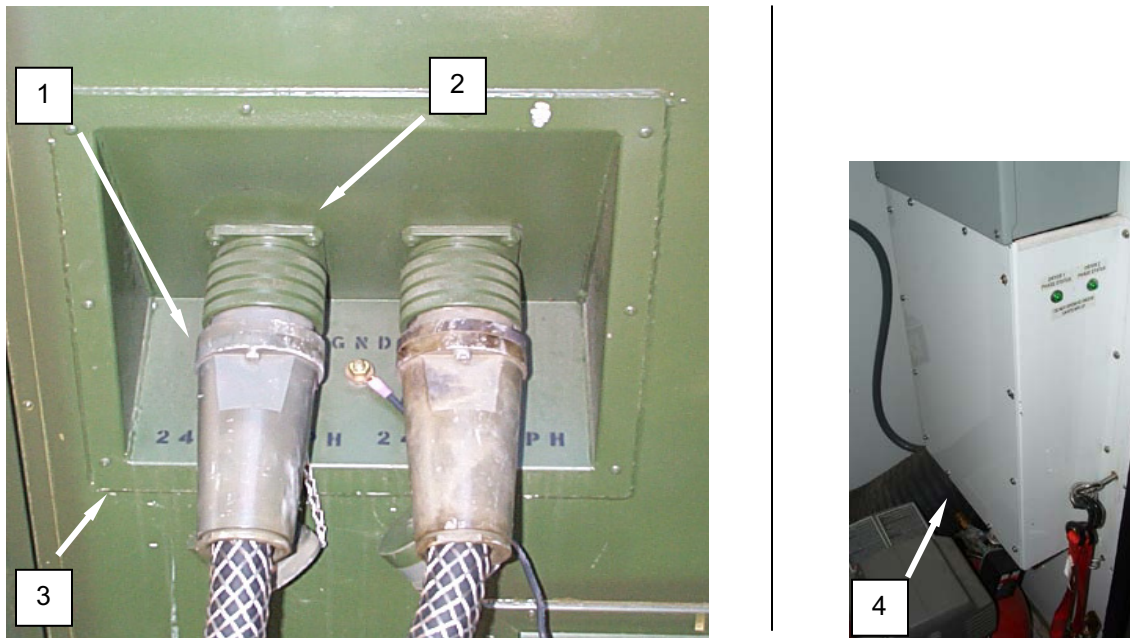

Figure 1. Test the Power Input Receptacle.
1. Disconnect power input cable (**Figure 1, Item 1**) from the receptacle (**Figure 1, Item 2**) on the CBL power panel (**Figure 1, Item 3**).
2. Remove the CBL panel cover (**Figure 1, Item 4**).
9. Check for secure connection and condition of wiring (**Figure 1, Item 10**) with an open connection between the prong (**Figure 2, Item 9**) on the receptacle (**Figure 1, Item 2**) and the main circuit breaker (**Figure 2, Items 11 or 12**).
12. Install the panel cover (**Figure 1, Item 4**).
14. Connect the power input cable (**Figure 1, Item 1**).